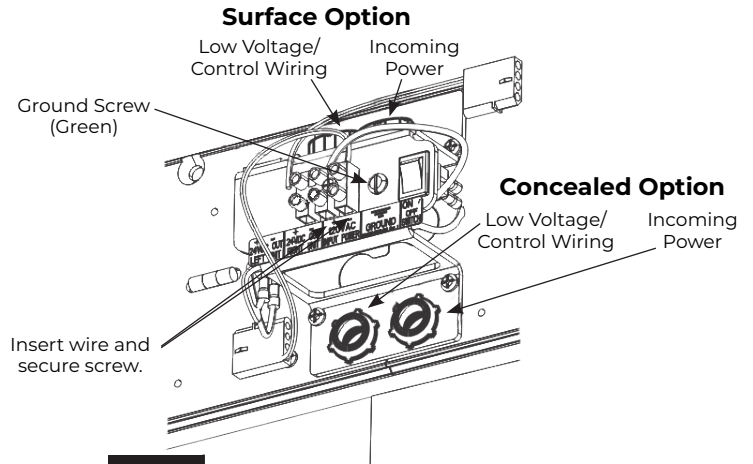
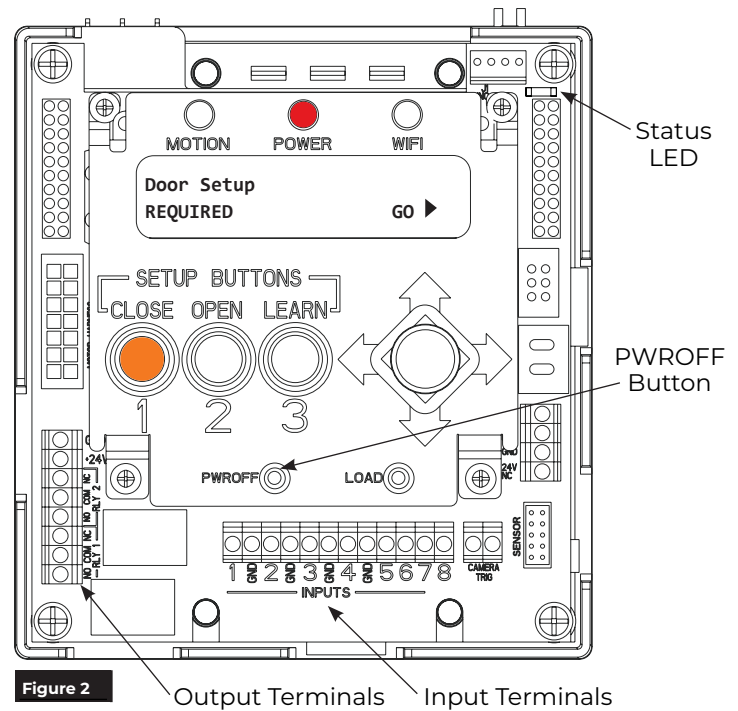
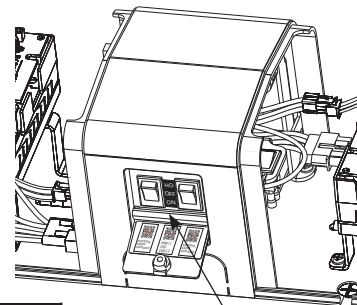

Figure 1
Figure 2
Figure 3
2. Connect 120VAC power to the terminal strip on top of the Conduit Assembly (Figure 1):
**NOTE:** The Union Assembly may have to be removed for ease of access. Remove AND SAVE the (4) 8-32 x 5/16" Philips pan head screws.
3. Wire any additional output devices, such as electric strikes, mag locks, exit devices, door open position output, etc., to the green terminals on top of control board. (Figure 2)
4. If applicable, reinstall the Union Assembly using the (4) 8-32x5/16" screws previously removed.
6. Confirm the ON/OFF/HO switch, located in the end cap, is in the ON position before proceeding to Setup (Figure 3).